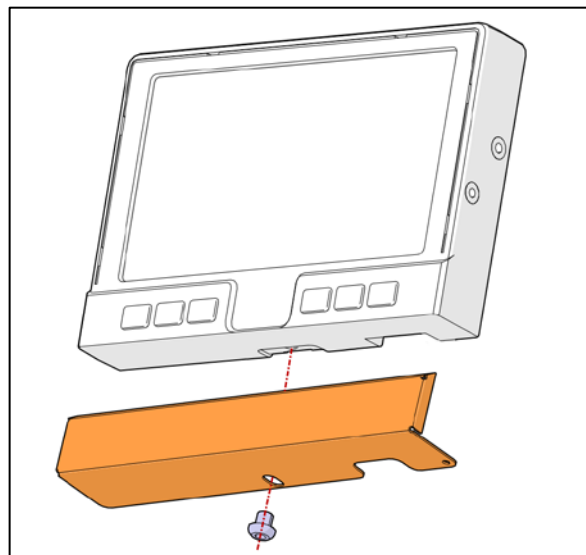

Figure 7
15. Install the guard and the screw on the monitor (Figure 7).